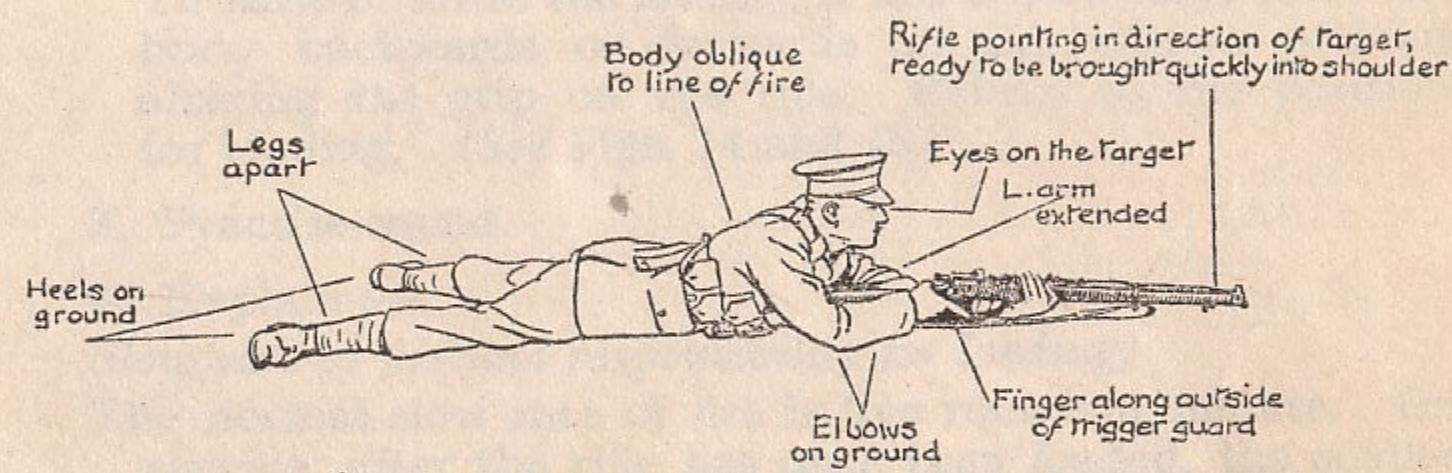

FIG. 13.
Man will be taught to adopt the lying position rapidly and to handle the rifle with as little movement as possible. The oblique angle of the body (see Fig. 13) must not be exaggerated.
i. To lie down.—Take a long pace forward to the right front with the left foot. At the same time change the rifle into the left hand, grasping it at the point of balance. Place the right hand on the ground in line with the left foot and lie down: during this movement push the rifle forward in the direction of the target and lower it to the ground; the left arm will now be extended to the front (see Fig. 13).